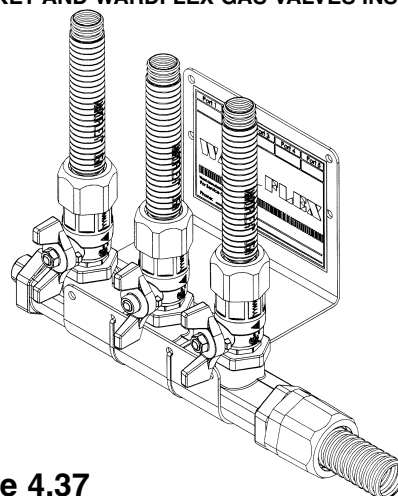

Figure 4.37
- Use the manifold bracket to attach a manifold to a wall surface or frame member (See Figure 4.37).